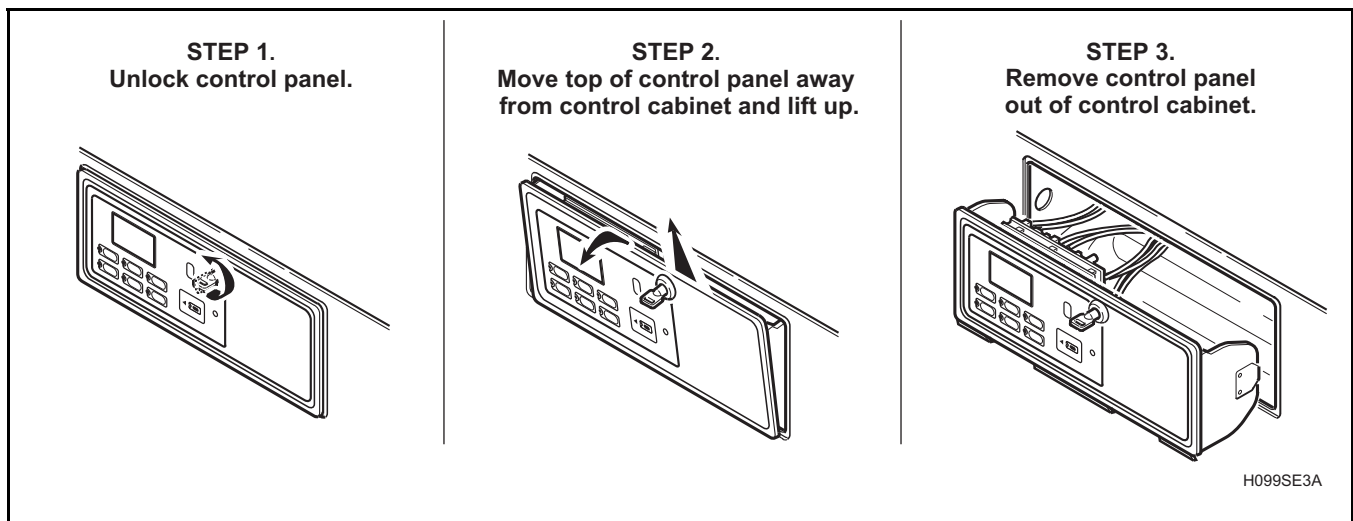

Figure 17
- a. Unlock control panel. Refer to *Figure 17, Step 1*.
- b. Pull top of control panel away from control cabinet far enough to allow lifting control panel up and off the rail support of the control cabinet. Refer to *Figure 17, Step 2*.
- c. Remove control panel away from control cabinet as far as wires permit. Refer to *Figure 17, Step 3*.
- Unlock control panel. Refer to *Figure 17, Step 1*.
- Pull top of control panel away from control cabinet far enough to allow lifting control panel up and off the rail support of the control cabinet. Refer to *Figure 17, Step 2*.
- Remove control panel away from control cabinet as far as wires permit. Refer to *Figure 17, Step 3*.
- (1) Unlock control panel. Refer to *Figure 17, Step 1*.
- (2) Pull top of control panel away from control cabinet far enough to allow lifting control panel up and off the rail support of the control cabinet. Refer to *Figure 17, Step 2*.
- (3) Remove control panel away from control cabinet as far as wires permit. Refer to *Figure 17, Step 3*.
- (2) Pull top of control panel away from control cabinet far enough to allow lifting control panel up and off the rail support of the control cabinet front. Refer to *Figure 17, Step 2*.